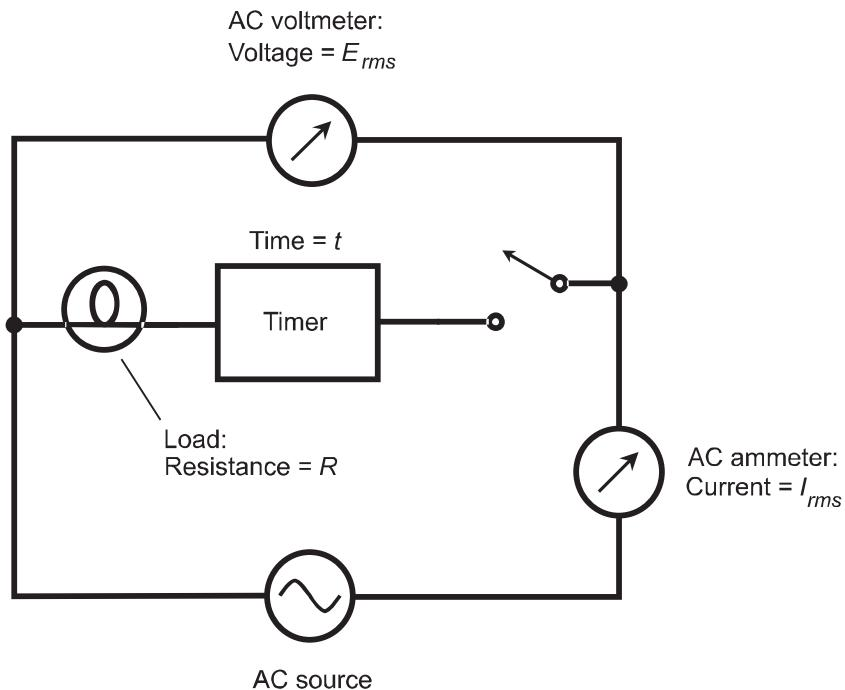

Fig. 7-7. Illustration for Quiz Questions 6 through 9.
6. Examine Fig. 7-7. Suppose the switch is closed. The AC ammeter indicates 3 A rms, while the AC voltmeter indicates 12 V rms. What is the load resistance? Assume that the timer has no resistance.
7. Suppose the switch is closed in the circuit of Fig. 7-7. The AC ammeter indicates 3 A rms, while the AC voltmeter indicates 12 V rms. What is the power drawn by the load? Assume the timer has no resistance.
8. Suppose the switch is closed in the circuit of Fig. 7-7. The AC ammeter indicates 3 A rms, while the AC voltmeter indicates 12 V rms. What is the energy consumed by the load? Assume the timer has no resistance.
9. Suppose the switch is closed in the circuit of Fig. 7-7. The AC ammeter indicates 3 A rms, while the AC voltmeter indicates 12 V rms. The switch is opened after the timer reading has gone from an initial value of 00:00 (0 h, 0 min) to 01:45. What is the energy consumed by the load? Assume that the timer has no resistance.